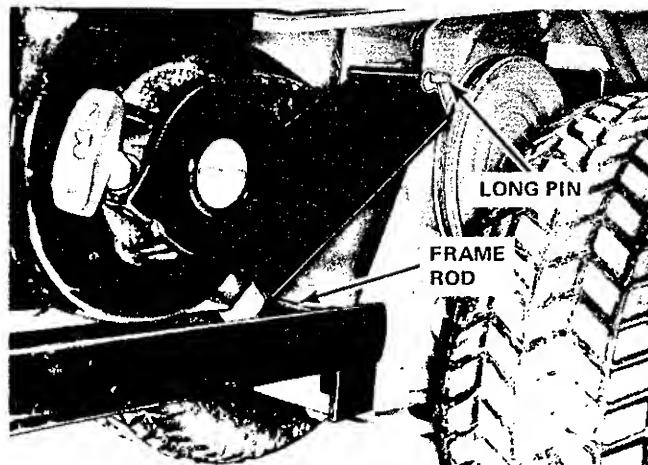

FIGURE 4
6. Install the engine and blower assembly on the tractor. Tilt it back and engage the lower frame rod in the hitch slots. Tilt it forward to align the blower frame holes with the mating holes in the seat support. Insert the long pin and secure with two spring clips. (See Figure 4).